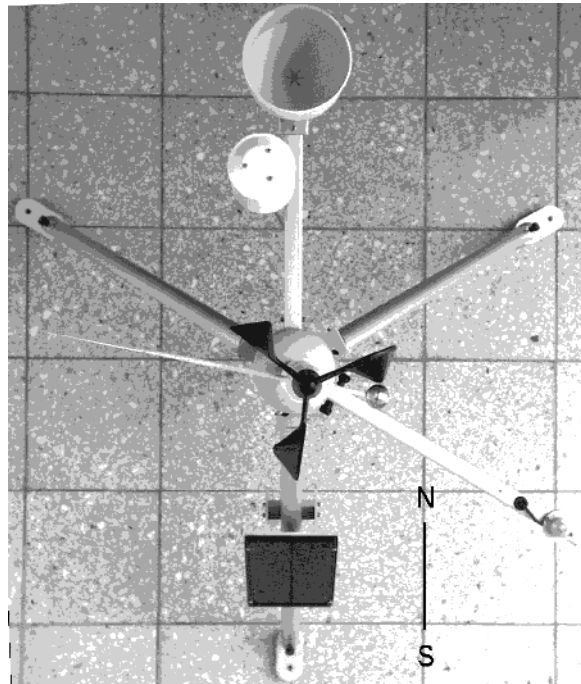

Figure 87 **Aligning MAWS201 on the Northern Hemisphere**
2. Point the solar panel leg towards south on the Northern Hemisphere (north on the Southern Hemisphere). Figure 87 on page 99 gives a suggestion of positioning the weather station on the Northern Hemisphere. The solar panel should face south, and the Air Temperature and Relative Humidity Sensor should be on the northern side of MAWS.